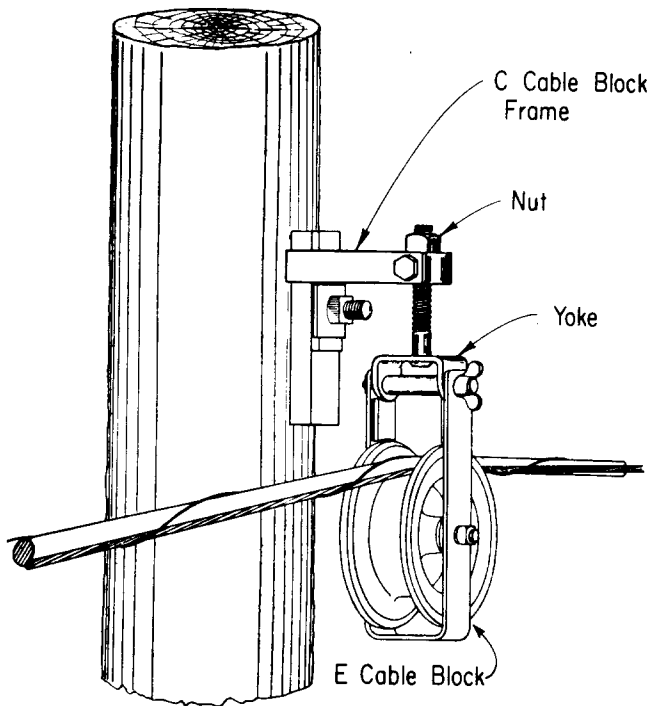

Fig. 9—C Cable Block Frame (With E Cable Block Installed)
6.03 The **C cable block frame** (Fig. 9) is used at in-line poles and corner poles where the pull is less than 3 feet.